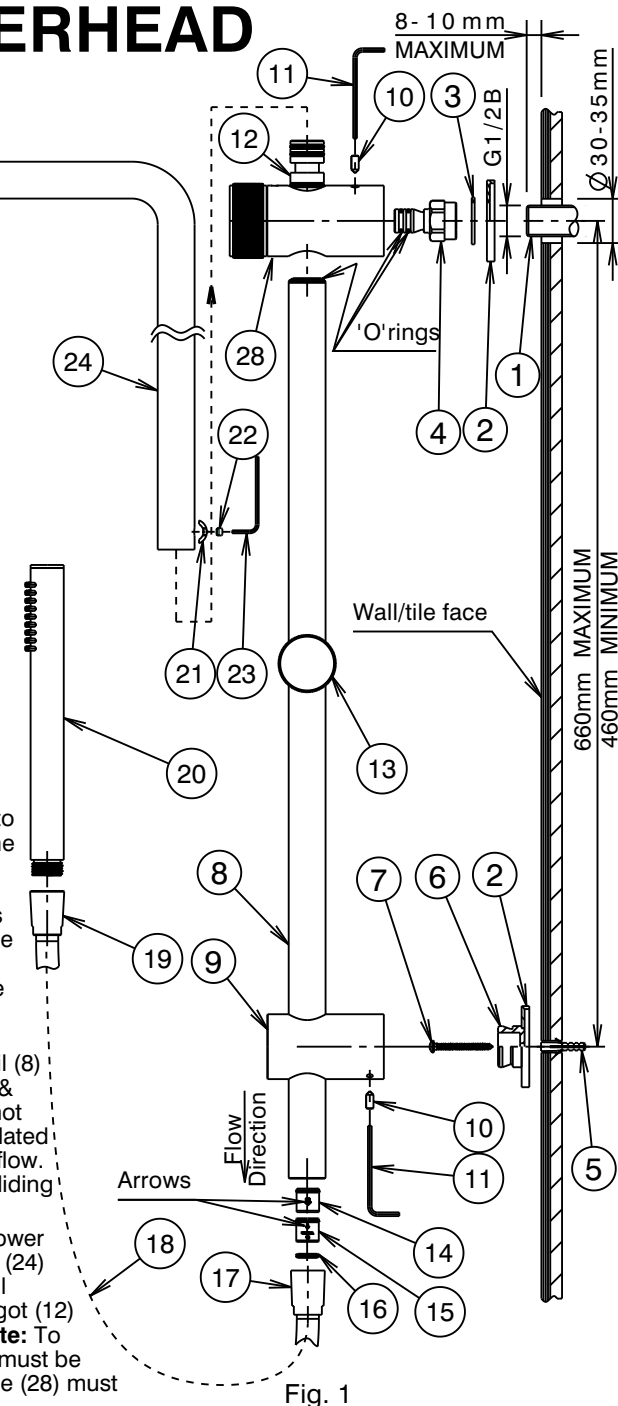

Fig. 1
- 2) Slide brass washer (3) followed by cover plate (2) onto plain diameter of adaptor (4), as shown. Screw adaptor (4) onto threaded nipple (1) until cover plate (2) is held securely against wall/tile face. **DO NOT OVERTIGHTEN.** Apply suitable lubricant to 'O' Rings on adaptor (4).
- 3) Mark the position for the shower rail mounting base (6) at a suitable distance from the threaded nipple (1). (Fig 1.)
- ii) Insert small end of wall plug (5) into drilled hole and tap until flush with surface.
- 5) Fit screw (7) through the hole in mounting base (6), locate wall cover plate (2) onto mounting base (6) then assemble into wall plug (5) and tighten.